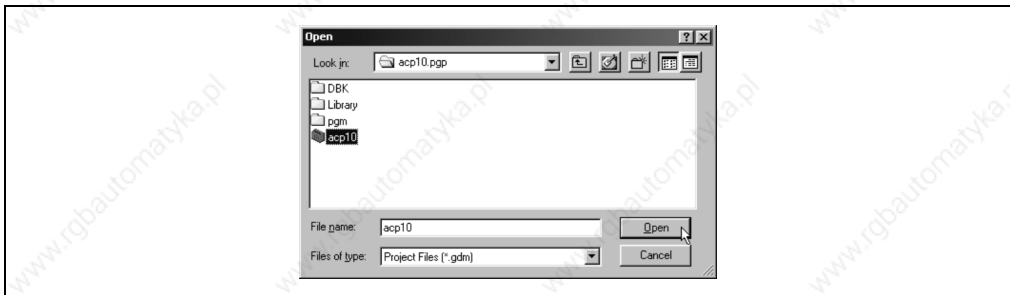

Figure 31: Open sample project
**During start-up, changes will be made to the sample project. We recommend that you make a copy of the sample project (entire ACP10.PGP directory, see Figure 31 "Open sample project") in a different project directory and use it for the start-up.**